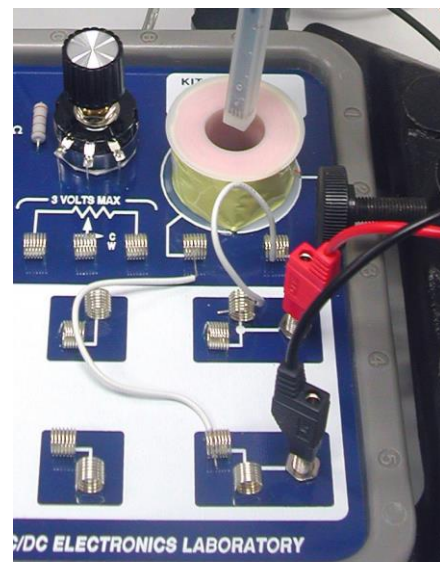

Figure 3: Circuit board connections
2. Connect white wire jumpers from the coil connector springs to the banana inputs for the Electronics Laboratory as shown in Figure 3.